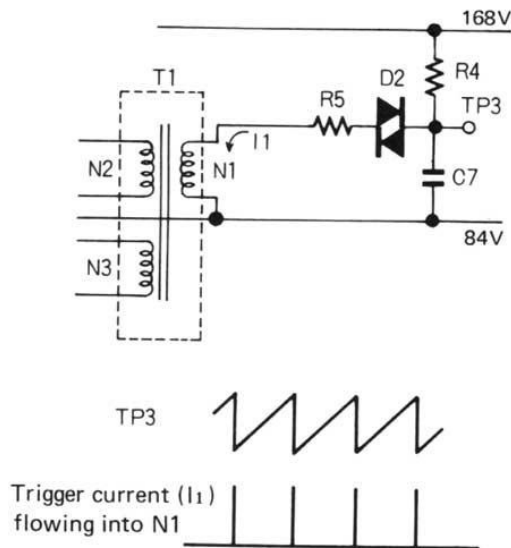

Fig. 15
1. With power supply turned ON, C7 is charged through R4. When the charged voltage becomes high enough to turn on trigger diode D2, current ( $I_1$ ) flows through R5. Then, C7 is discharged and, therefore, it is again charged through R4. As the operations are repeated, trigger current flows into N1 as shown in Fig. 15.